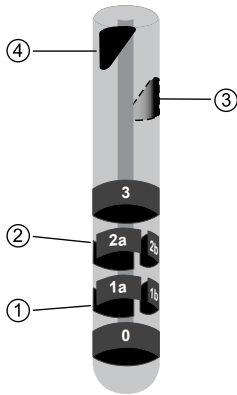

Figure 3. Orientation markers and electrode numbering.
- Electrode levels are numbered as 0, 1, 2, 3. Electrodes 0 and 3 are full annular electrodes. The six electrodes at levels 1 and 2 consist of electrode segments. When viewed from the proximal end of the lead, the electrode segments are alphabetically ordered counterclockwise, and identified as 1a, 1b, and 1c, and 2a, 2b, and 2c (Figure 3).